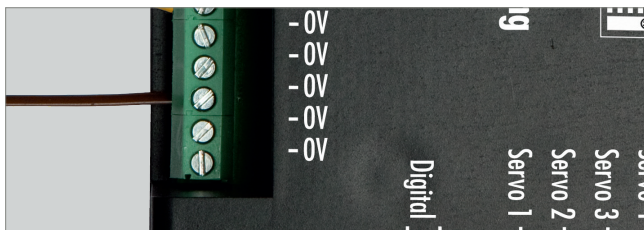

Fig. 2: Connecting to the ground
- ▶ Connect a wire, which is itself connected to the ground, to one of the »0V« ports of the Servo Control, see Fig. 2.